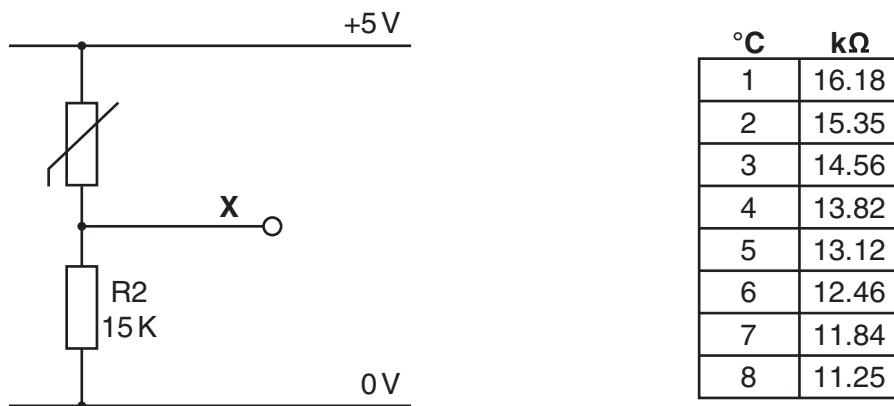

Fig. 14
- 5 Fig. 14 shows part of the sensing circuit for a warning device to indicate when a supermarket fridge temperature is above 4 °C.